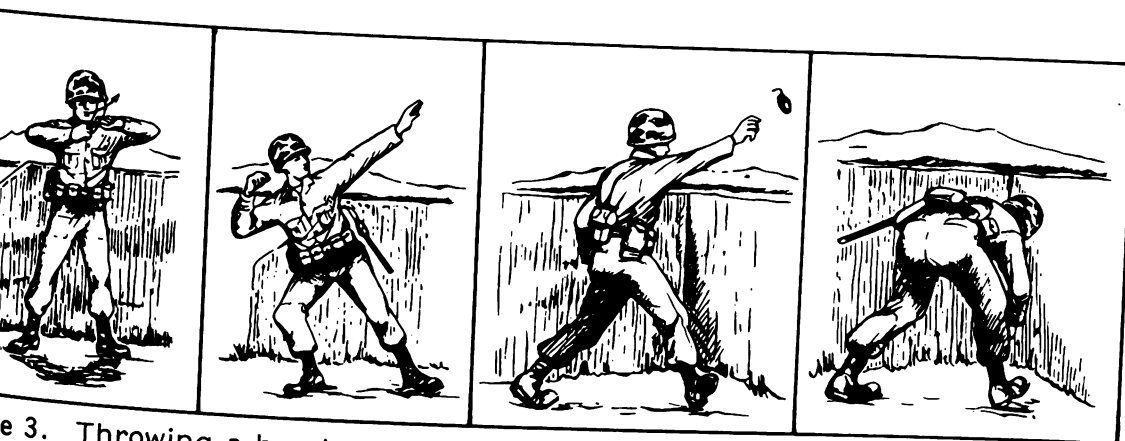

Fig 3. Throwing a hand grenade.
c. To Throw a Hand Grenade (fig 3).
- (1) Look at the target and judge the distance to it.
- (2) Line your body up so you can throw comfortably.
- (3) Hold the grenade under your chin and, with the index finger of your other hand, pull and twist the pull ring (at the same time, pull the safety clip off the lever with your thumb).
- (4) As the pin is removed, look back at your target.
- (5) Keeping your eye on the target, throw the grenade overhanded.
- (6) Release the grenade after it comes into your field of vision and follow through.